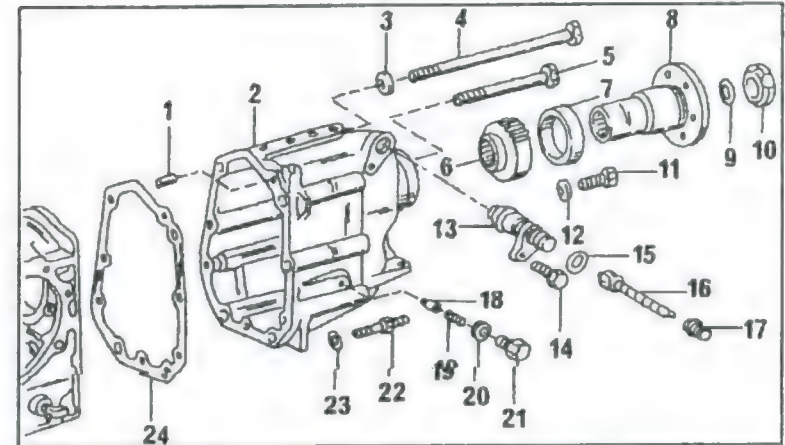

Fig. 3.8 – The component parts of the rear gearbox cover.
- Remove the old oil seal out of the cover (screwdriver) and remove the speedometer drive shaft. The dismantled cover is shown in Fig. 3.8.
- Coat the cover screws with "Loctite" and tighten the screws with the torque values given in Fig. 3.8.
- Fit the plug shown in Fig. 3.9 with items 18 to 20 in Fig. 3.8 into the transmission cover and tighten the plug to 3.0 – 3.5 kgm (22 – 25 ft.lb.).